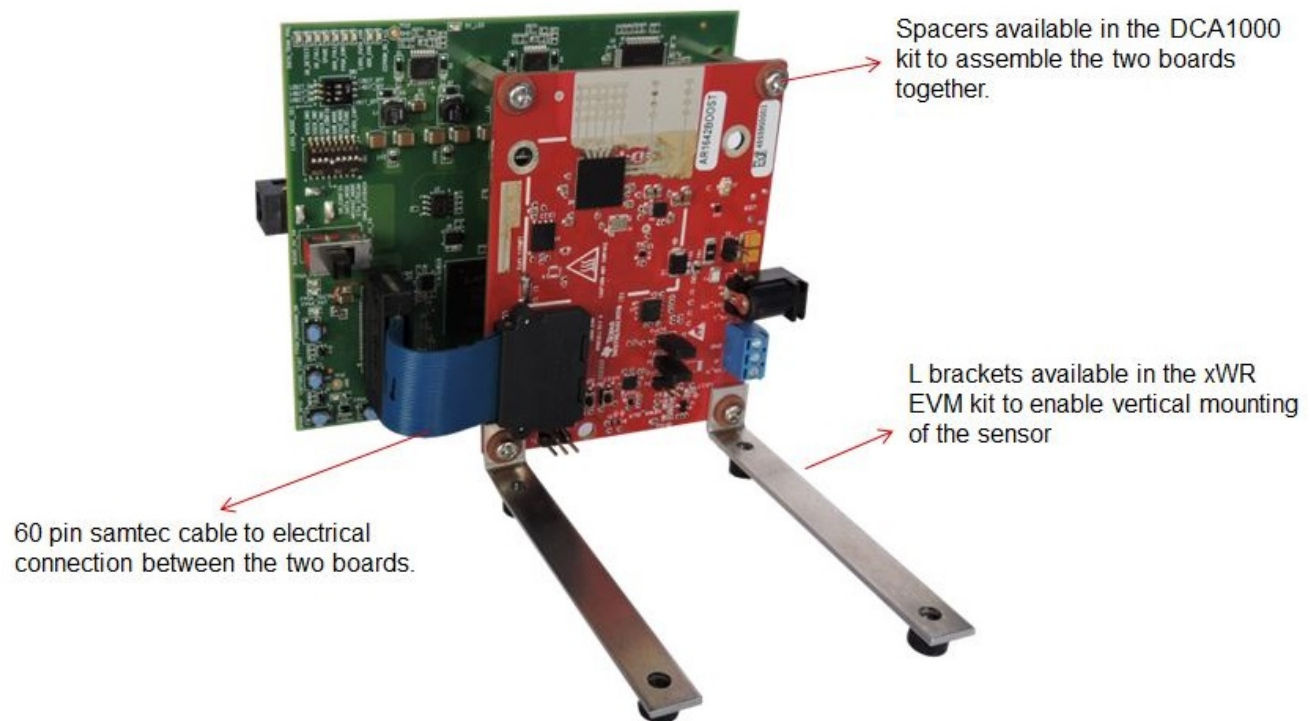

Figure 1. Hardware Connection: DCA1000 With xWR mmWave Sensor EVMs
1. Interface the DCA1000 board with the xWR mmWave sensor EVMs, as shown in Figure 1.